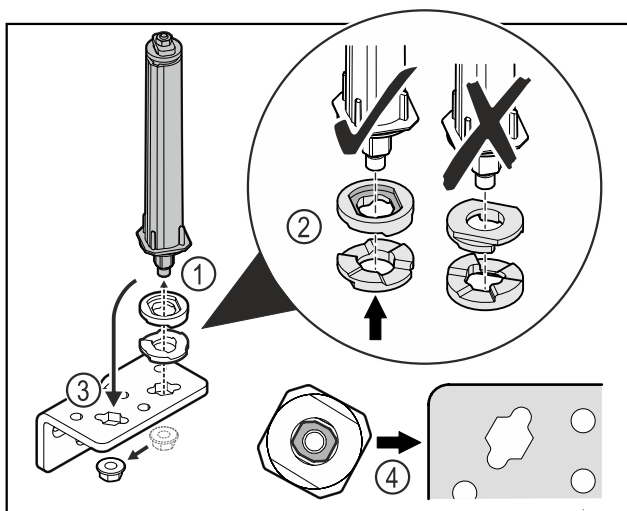

Fig. 46
- ▶ Loosen the nut and remove the door closing system Fig. 46 (1).
- ▶ Observe the correct alignment of the height adjustment washers Fig. 46 (2).
- ▶ Put the door closing system in the hinge fix in place with the nut Fig. 46 (3).
- ▶ Observe the correct alignment of the door closing system when doing so Fig. 46 (4).